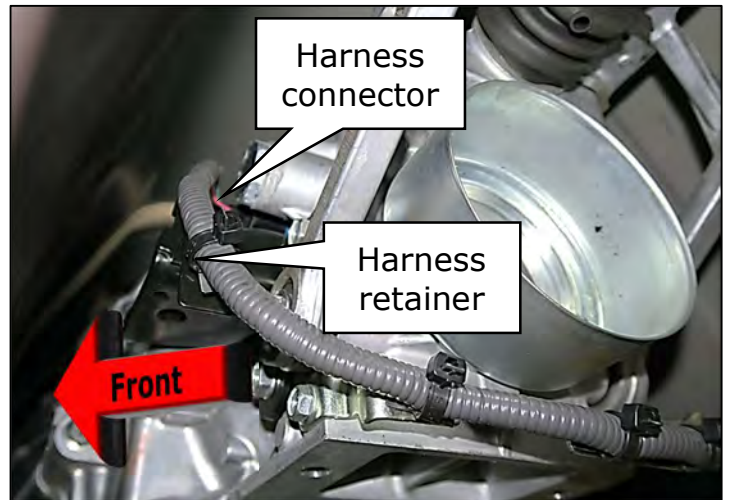
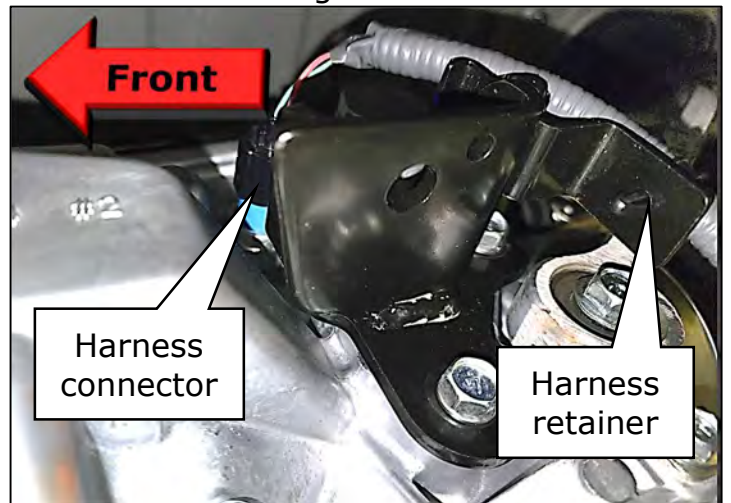

Figure 57
Figure 58
58. Disconnect the connector shown in Figure 57 and Figure 58.
- Depress the (2) tabs on the harness retainer to release it from the harness bracket